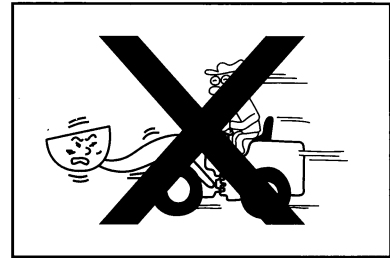

Figure1-52
- Be familiar with the performance of the loader and choose the right speed according to actual condition. Determine the most suitable route and working method and get cooperating people known that.(Figure 1-52)